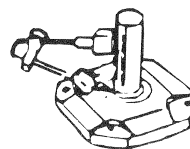

Figure 4
- F. For best performance, seat the seal square with shaft within .005" at 180°. Check with dial indicator as shown in Figure 4, Page 3, or with a straight edge and feelers, or square and feelers. To straighten a cocked seal, place tubing over the seal and tap the tube lightly at a point diametrically opposite the low point on the seal. DO NOT strike seal directly.